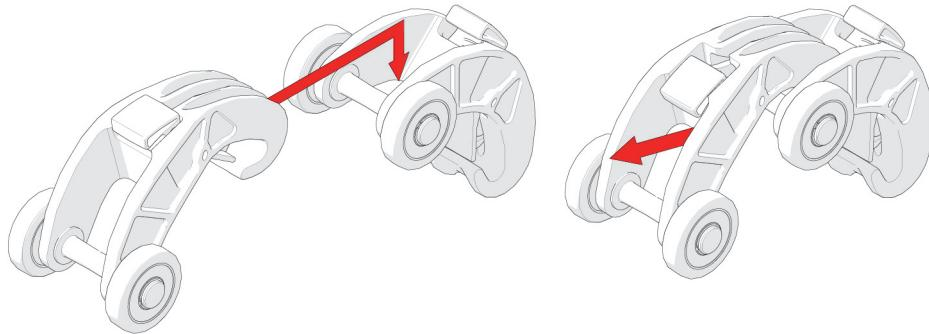

Figure 2-17 Connecting the QuickLinks
1. Lift the hook of the QuickLink over the axle of the QuickLink that is to be connected (see Figure 2-17 on page 48).
2. Pull the QuickLink until you hear a click that ensures the latch has been set (see Figure 2-17 on page 48).